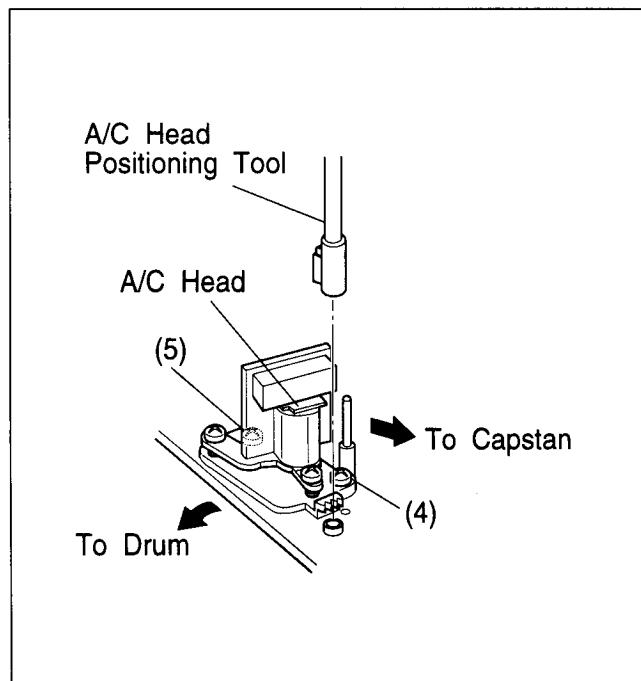

Fig. 2-7-6
- (1) Connect the oscilloscope to TP6(PB FM) on the PRE/REC board. Use TP11(D.FF) on the PRE/REC board as a trigger.
- (2) Playback the SP stairstep portion of the alignment tape [MHP].
- (3) Set the neutral manual tracking position by simultaneously pressing the “-” and “+” tracking buttons.
- (4) If adjustment is required, slightly loosen screws (4) and (5). Set A/C head positioning tool on the A/C head adjusting boss as indicated in Fig.2-7-6.